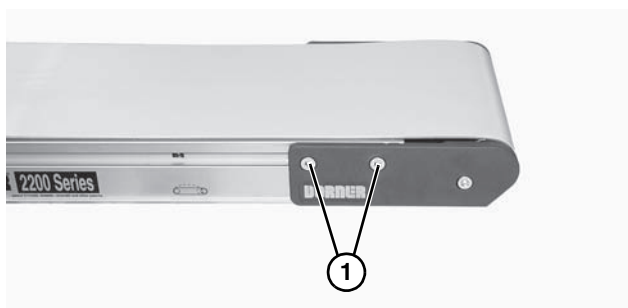

Figure 52
1. On one side of the conveyor, loosen two (2) head plate fastening screws (**Figure 52, item 1**) and remove them.